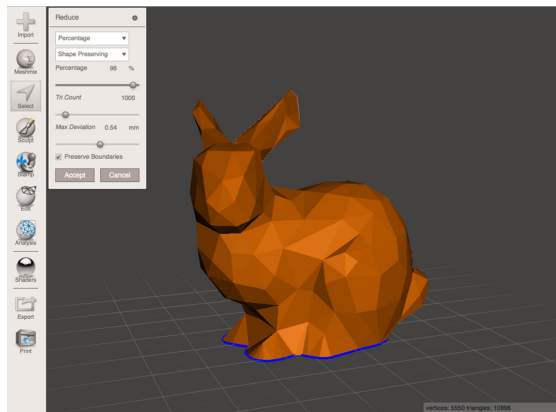

Figure 3-18 Blocky bunny
4. Increase the percentage slider to about 90%. You can play around with this, but try to get to the point where you see big triangles without distorting the shape (Figure 3-18).